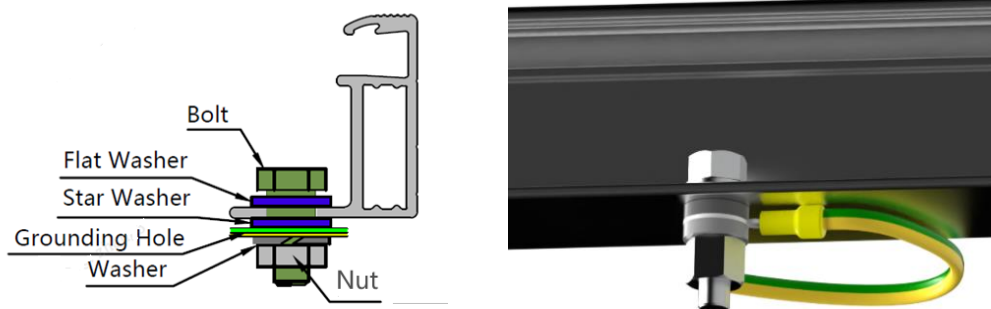

Figure 10. Grounding hole with bolts
- There are grounding holes with a diameter of 4mm on the long side of the back frame of the module, by the edge part. The grounding hole on the frame is marked with typical grounding symbol (\perp) according to IEC 61730-1:2023 standard. These holes can only be used for grounding with bolts, so cannot be used for module installation. This method includes bolt, flat washer, star washer, washer and nut (see Figure 10) . The bolts should be tightened when grounding is installed. The frame of the module must not be punched with additional holes and no damage should be done to the module frame or the grounding wire.